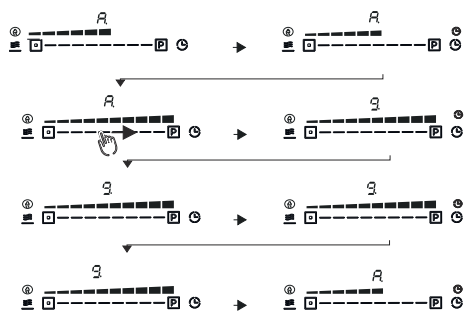

Fig. 41
If you want to adjust your hood in automatic mode (if you want to increase or decrease the ventilation level), you can make changes with the aspirator level determiner button (A). The ventilation level you manually changed is valid for 5 minutes. It switches back to automatic mode after 5 minutes (Fig. 41).